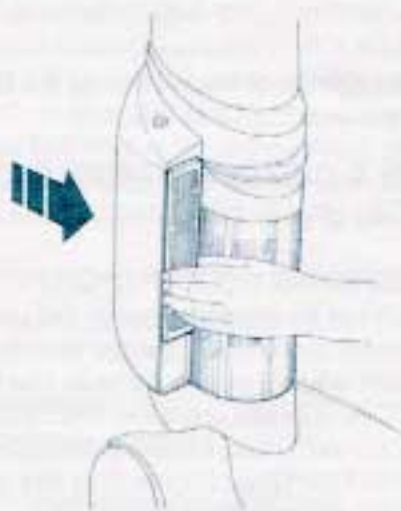

Figure 17c
3. Pull the Filter Cartridge toward you to remove the old HEPA Cartridge. (Figure 17c)